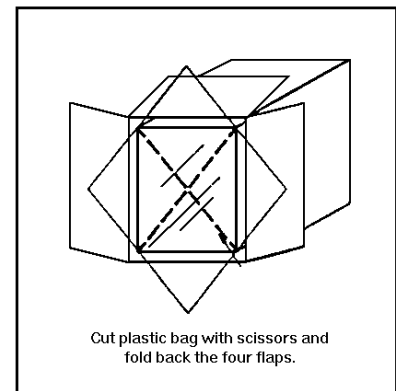

FIGURE 3
- d) Remove the polystyrene (foam) packing material, and cut the plastic bag with scissors, as indicated in figure 3.